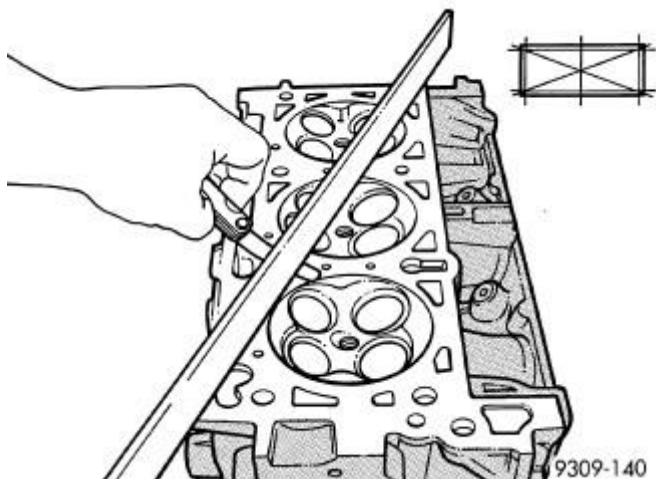

Fig. 108: Checking Cylinder Head Flatness
3. Check cylinder head for flatness. Refer to Fig. 108.